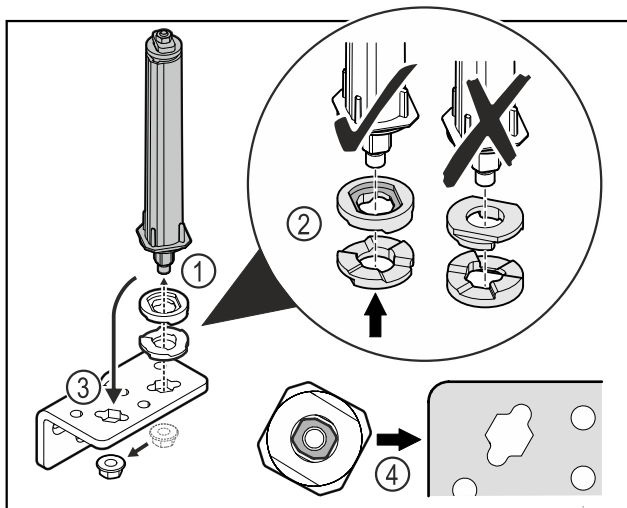

Fig. 28
- Loosen the nut and remove the door closing system Fig. 28 (1).
- Ensure that the height adjustment discs are correctly aligned Fig. 28 (2).
- Move the door closing system to the hinge angle and secure it with the nut Fig. 28 (3).
- When inserting, ensure that the door closing system is correctly aligned Fig. 28 (4).